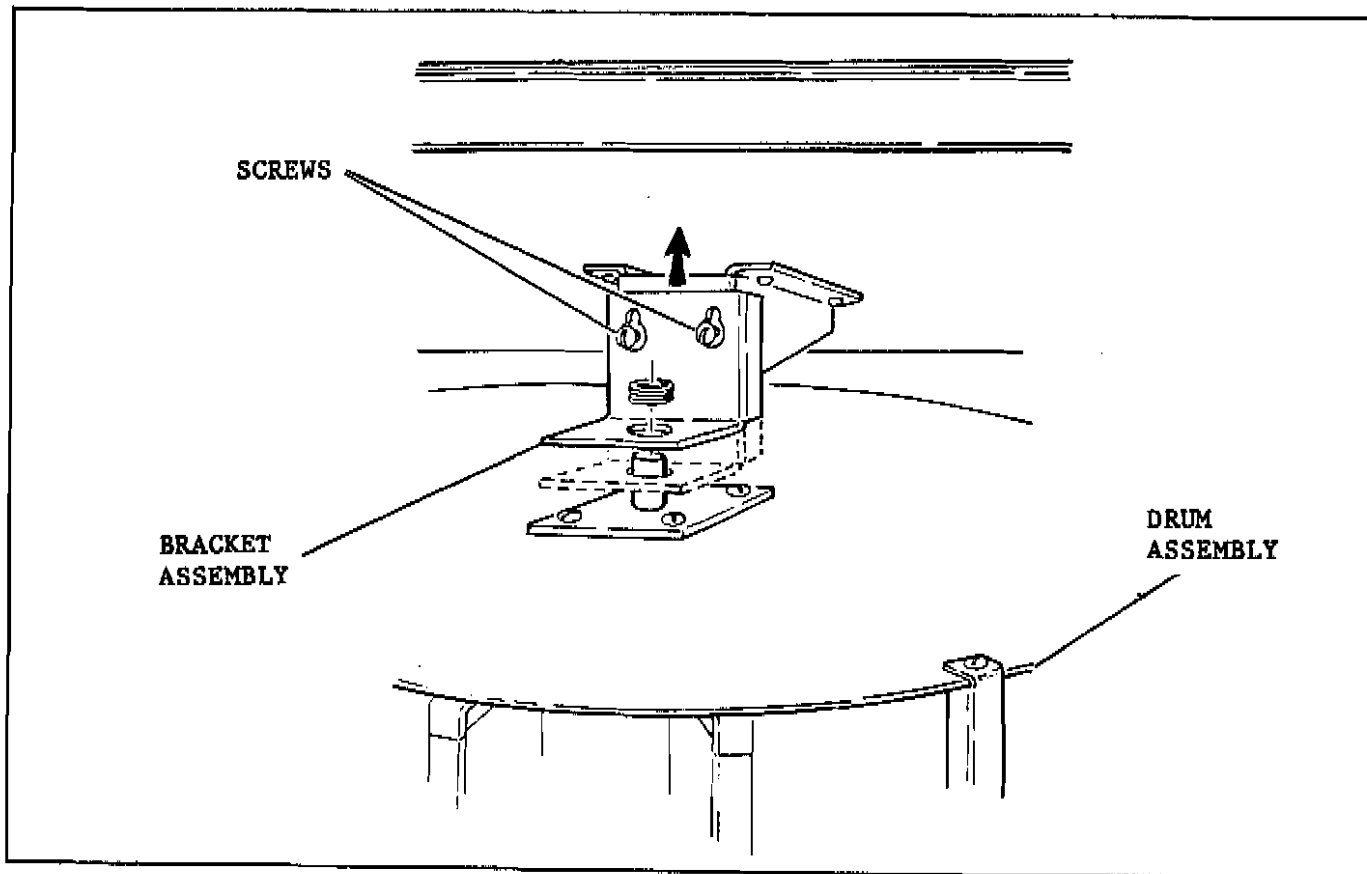

Figure 3-3. Drum Assembly Removal and Replacement
- A. To remove drum assembly, see Figure 3-3 and do the below: